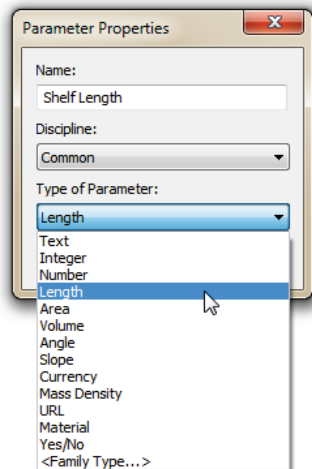

Figure 4—Create a new parameter
6. Input a name for the new parameter and choose the Type of Parameter. Click OK to complete the parameter (see Figure 4).